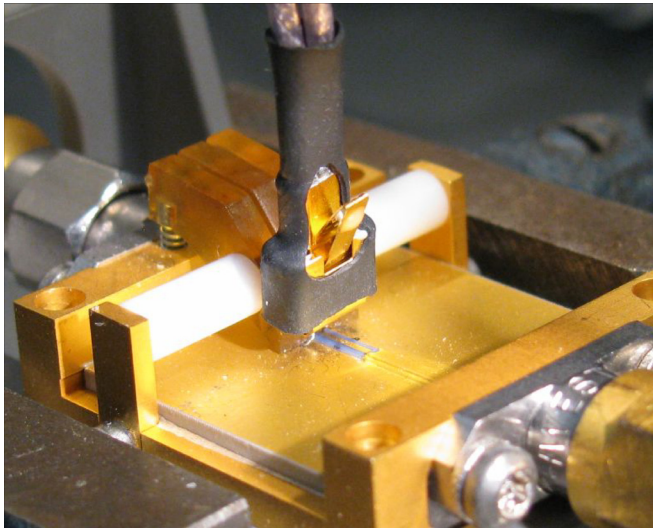

Figure 63 Close-up of tip wires positioned under pinchers
- c Depress the actuators on the pinchers and carefully insert one wire under the center pincher and the other wire under one of the side pinchers. Either polarity of the probe can be tested and will yield the same results (but opposite phase) if the probe is working properly. **Figure 63** shows a close up of the tip wires positioned under the pinchers.